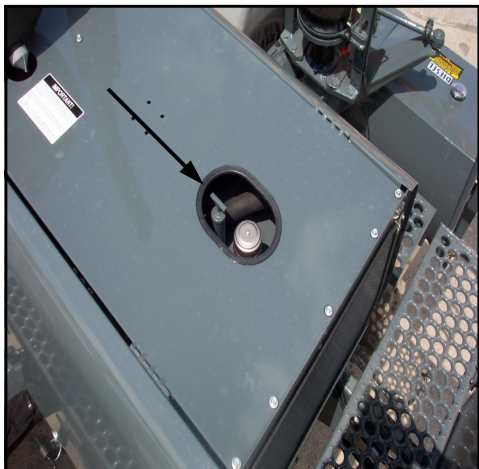

FIG 8.2
OIL LEVEL - Check the hydraulic oil level in the reservoir using the dipstick (fig. 8.2) or the sight gauge on the left-hand side of the tank (fig 8.2, item 1) daily. Add just enough fluid so the level reaches the bottom tip of the dipstick or level is in the center of the sight gauge (fig. 8.3). Always check the hydraulic oil level when it is cool. Hydraulic oil will expand when heated in a system and measuring the reservoir by these levels allows for expansion.